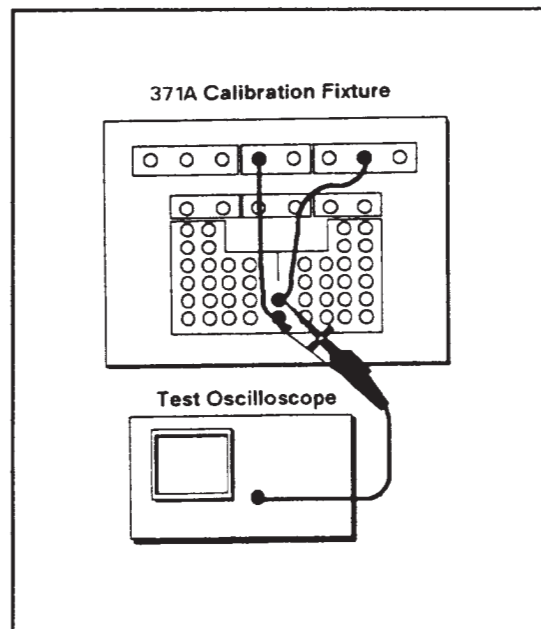

Figure 4-25. Setup for checking ripple and pulse noise.
3. Connect the X1 probe tip from the test oscilloscope by using terminal plugs as shown in Figure 4-25.